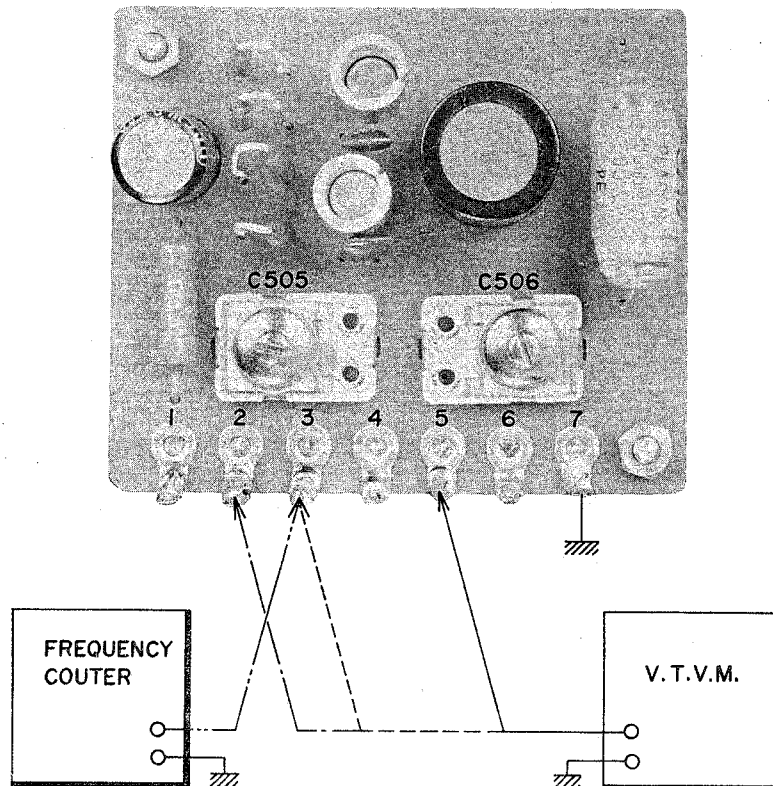

Fig. 13
3. RECORDING BIAS FREQUENCY ADJUSTMENT (See Fig. 13)
- Connect a Frequency counter to point (3) in Fig. 13 of the oscillator P.C. Board (LF-5210) and read the frequency indication.
4. RECORDING BIAS VOLTAGE ADJUSTMENT (FREQUENCY RESPONSE ADJUSTMENT) (See Fig. 13)
- Connect a V.T.V.M. to points (6) in Fig. 13 of the oscillator P.C. Board (LF-5210) and read the V.T.V.M. indication.